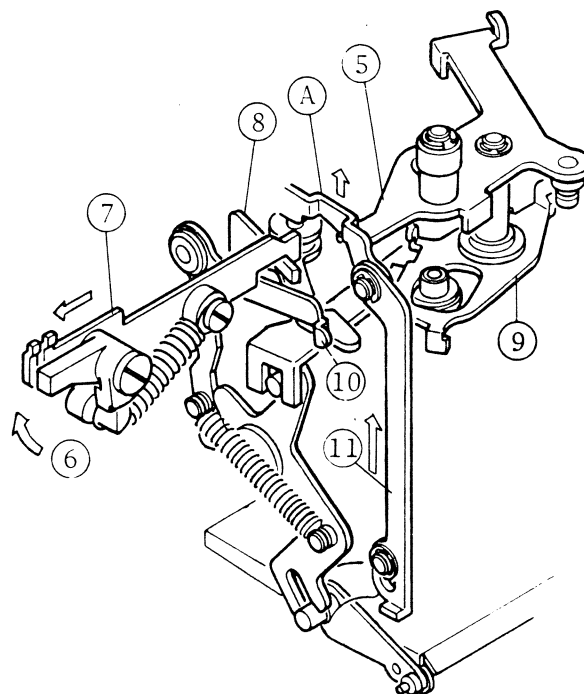

Fig.25
- ⑥.⑦ Releasing the mirror, mirror up (Fig. 25)
- ⑪ Returning the mirror (Fig. 25)
(Fig. 25)
6. The (8) mirror latch is unlatched and then the mirror rises up.
7. Just before the mirror has risen up, the 1st curtain is started by the (10) 1st curtain start lever goes down.
8. With the second curtain closed, the mirror returns to the viewing position by the (11) mirror return lever moves in direction shown by the arrow. (Fig. 25)